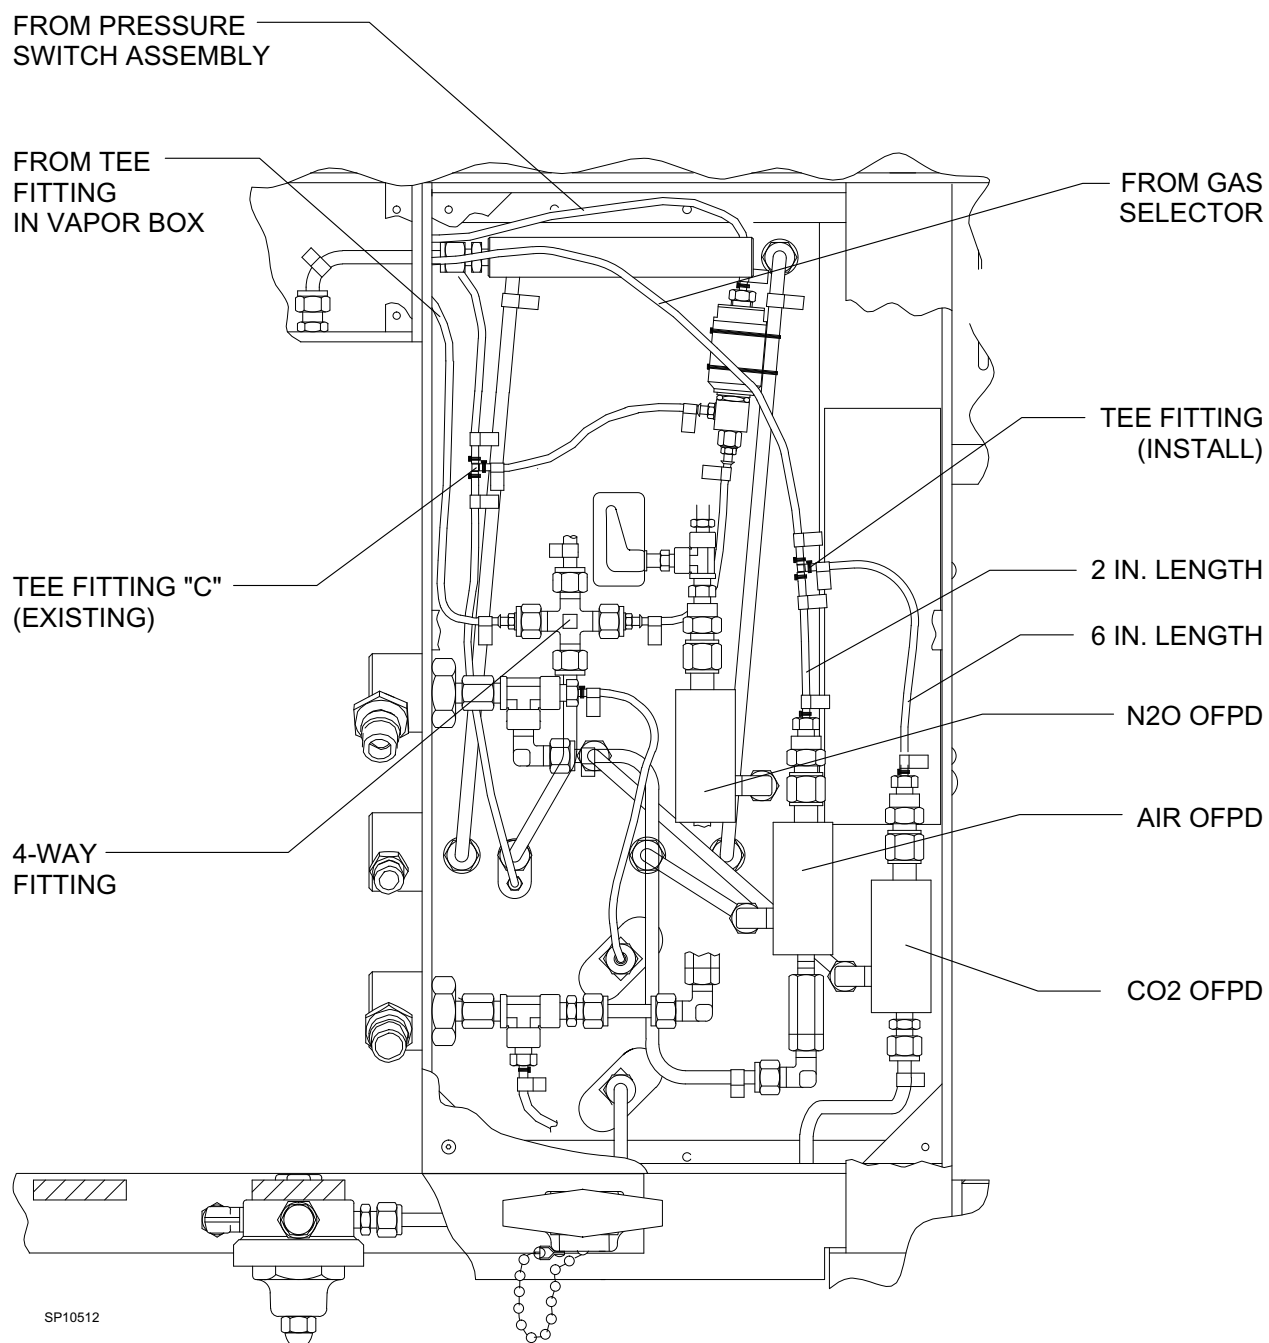

Figure 12: FLEX TUBING CONNECTIONS
98. Cut the flex tubing two inches above the hose barb on the top of the air OFPD and install a nylon tee fitting (P/N 4102337) as shown in Figure 12. Install an O₂ label (P/N 4109871 x2) on each end of this junction.
100. Connect a 17 in. length of flex tubing (P/N ML08003 x17) from the remaining port of the nylon tee fitting in the vapor box and secure it with a tie strap (P/N 4106068). Connect the other end of the tubing to the side port "A" on the 4-way fitting and secure it with a press-on clamp (P/N 4104161). Install an O₂ label (P/N 4109871 x2) on each end of this tube. See Figure 12.
101. Remove the existing tubing from side port "B" on the 4-way fitting. Connect an 8 in. length of flex tubing (P/N ML08003 x8) from side port "B" on the 4-way fitting to the bottom port of the minimum flow valve, and secure each connection with a press-on clamp (P/N 4104161 x2). Install an O₂ label (P/N 4109871 x2) on each end of this tube. See Figure 12.